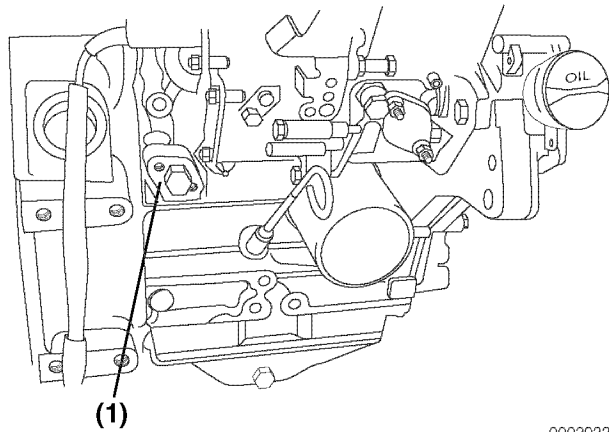

Figure 5-17
4. Drain the coolant from the engine block. Remove the coolant drain plug (**Figure 5-17, (1)**) from the engine block.